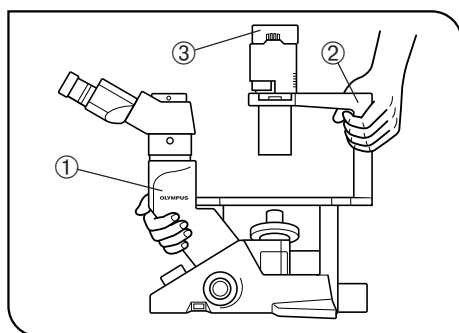

Fig. 1
3. When transporting the microscope, be sure to keep it horizontal by holding it by the root of the observation tube relay tube ① and the illumination column ②. (Fig. 1)
5. The surfaces of the lamp socket ③ of the illumination column will become extremely hot during operation. When installing the microscope, make sure to allow ample free space around and in particular above the lamp socket. (Fig. 1)
6. To avoid potential shock hazards and burns when replacing the light bulb, set the main switch ④ to “○” (OFF) then disconnect the power cord from the wall outlet in advance. Whenever you replace the bulb during use or right after use, allow the lamp socket ③ and bulb to cool before touching. (Figs. 1 & 2)